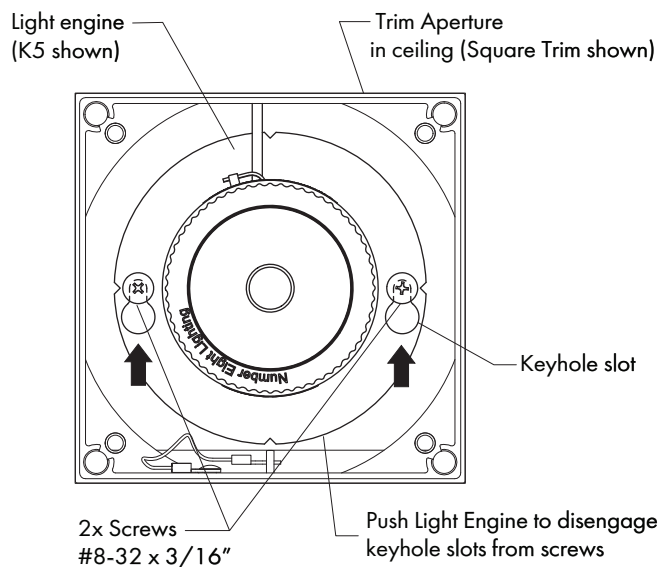

FIG 4.1 Loosen Light Engine screws
STEP 1 Remove Trim Plate & loosen 2x short screws slightly-DO NOT REMOVE. Push Light Engine in direction of arrows to disengage from housing-**FIG 4.1**.
STEP 1 Loosen screws & disengage **W5** Light Engine. Relocate screws if required-**FIG 4.1 & 4.2**.
STEP 1 Remove Light Engine as shown in **FIG 4.1** & **FIG 4.2** on page 4.
STEP 7 Replace Light Engine—See **FIG 4.1** & **FIG 4.2** on Page 4.